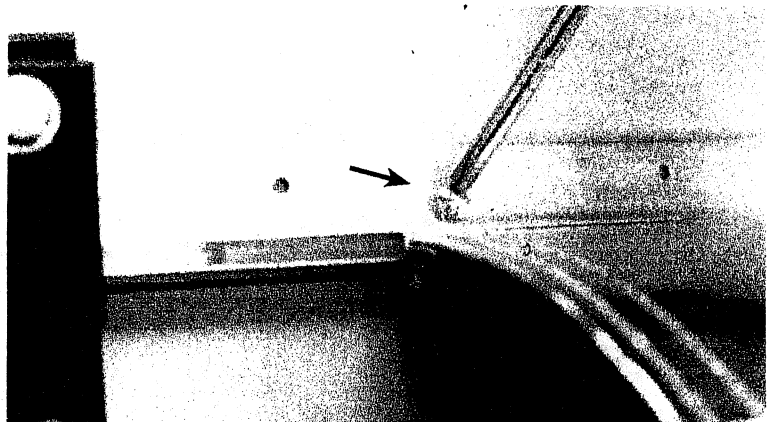

FIG. 4
2. Remove the screws that secure the awning fabric to the awning rail attached to vehicle or structure. (These screws are usually self-tapping screws that are driven through the fabric, rope and awning rail to keep the awning fabric from shifting in the awning rail and tracking crooked.) **SEE FIG. 4**